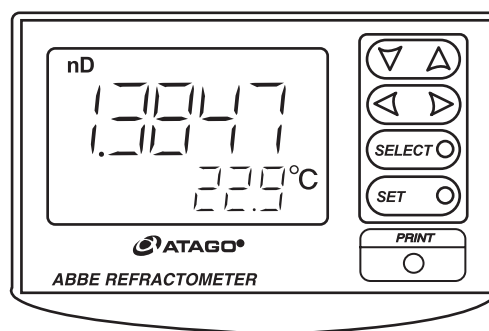

Fig. 8-3
- ③ The value indicated as the boundary line crosses the intersection point of the crossline is the measurement value of the sample (Fig. 8-3).